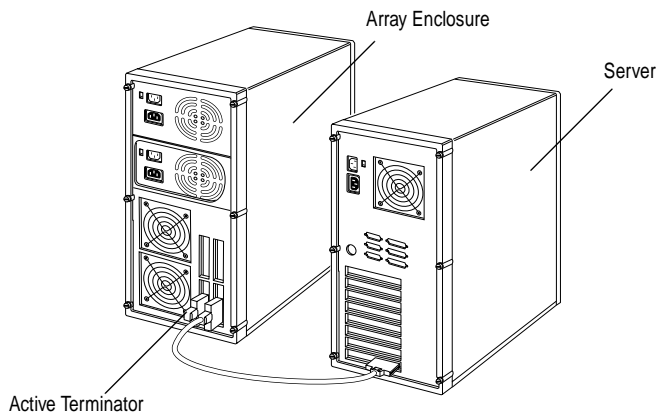

Figure 2-16. A Typical Array Enclosure Setup
To help you conveniently manage your SCSI storage subsystems, a variety of external array enclosures are available from different manufacturers. Figure 2-16 shows a typical setup between the array enclosure and the system. To install your SCSI devices in these enclosures, refer to the enclosure's documentation. The following information is provided to help you properly connect your enclosure to the system: (See the Adaptec Web site at <http://www.adaptec.com/raid> for a list of popular array storage enclosures and disk drive manufacturers.)
- Ideally, the array enclosure itself should provide termination capability, either on the SCSI backplane or with an attachable active terminator, as shown in Figure 2-16, and you should disable termination on all the drives in the enclosure. If you terminate the SCSI bus by enabling termination on a drive, you may run into problems if you have to replace that drive and you then forget to terminate the replacement drive.